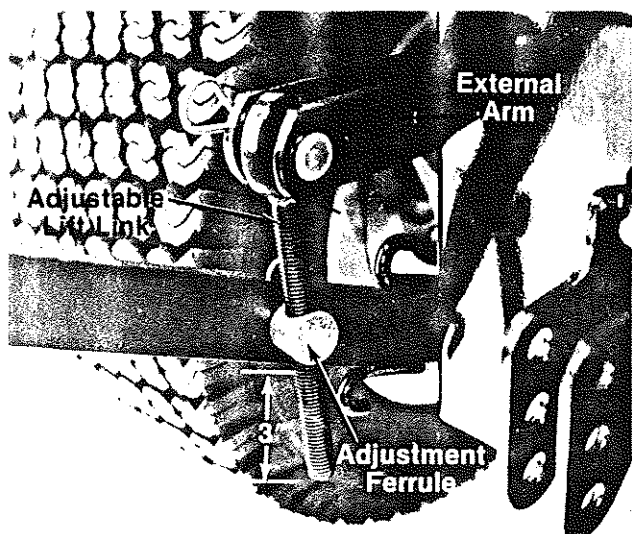

FIGURE 11.
12. Disconnect the adjustable lift links from the external arms of the three point hitch. Thread the links into the adjustment ferrules until approximately 3" shows below the ferrule. See figure 11. Reassemble lift links to the three point hitch.